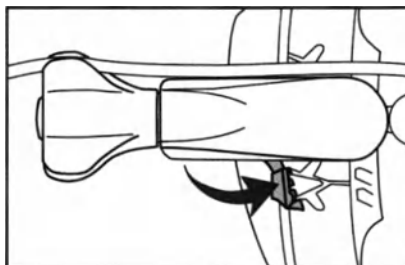

Figure 4a: Locking Lever in UNLOCKED position
4. To secure the ACROBAT-i Positioner to the retractor lock the Mount by pushing the Locking Lever towards the Mount body into the LOCKED position. Ensure the ACROBAT-i Positioner is attached securely to the retractor once the Mount is locked into place. Refer to Figure 4a and 4b for unlocked and locked positions.